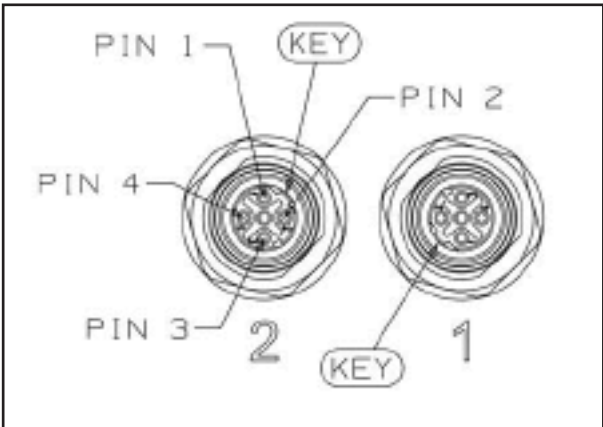
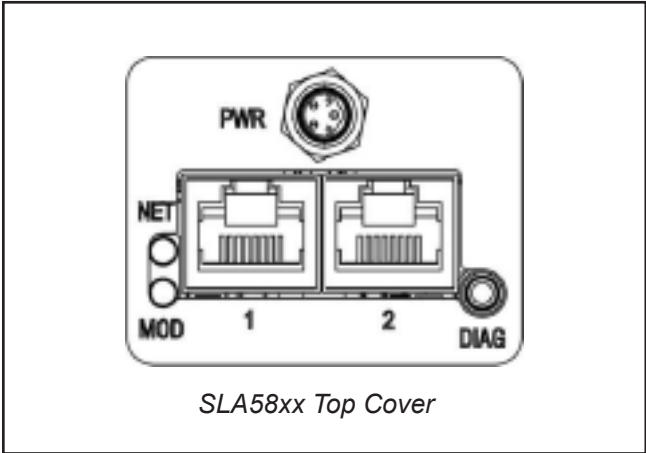

Figure 4-1 Pin Labeling of M12 Female Connectors (2 per device)
Figure 4-4: EtherNet/IP Top Cover
- In and Out M12 threaded female connectors labeled “1” and “2” for Ethernet/IP™ Communications (Figure 4-1).
The available physical interfaces on the EtherNet/IP™ SLA5800 device are listed below (Figure 4-4):
As noted in the Physical Interface Sections, above, each SLAMf EtherNet/IP™ device has (2) M12 4 Pole, Female “D” Coded Connectors (Figure 4-1) labeled 1 and 2. And each SLA5800 Series EtherNet/IP™ device has (2) RJ-45 Ethernet Connection ports labeled 1 and 2 (Figure 4-4). Network connections can be made to either or both ports, depending on the network topology. The SLA5800/MF Series EtherNet/IP™ device will support star, linear and DLR (Device Level Ring) topologies. Copy and past the following link into your web browser for more detailed information on EtherNet/IP™ topologies and their implementation: